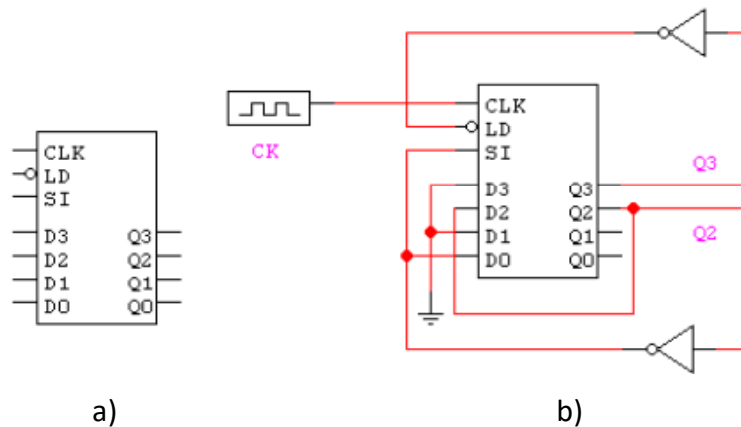

Fig. 1 – a) – a 4-bit shift register; b) – application of the shift register in a counting circuit.
9. [Paper and pencil + *Quartus Prime*]. Design a delay line of length N , where N ranges from 1 to 16. The desired delay is specified with four inputs: $A3 \ A2 \ A1 \ A0$ containing the unsigned binary representation of $N-1$. You may only use 4-bit shift registers (similar to those shown in Fig. 1) and multiplexers 4:1. Try to minimize the number of used components.